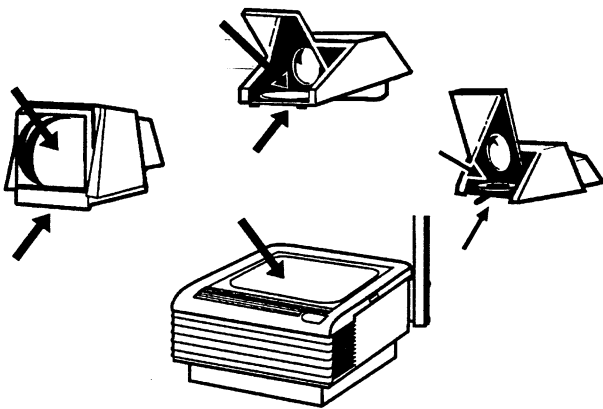

Figure 3-4. Cleaning Lens, Stage Glass, Body Mirror
1. Use 3M overhead cleaner and a soft, lint-free cloth to clean the surfaces of the head lenses, stage glass and body mirror. Figure 3-4.